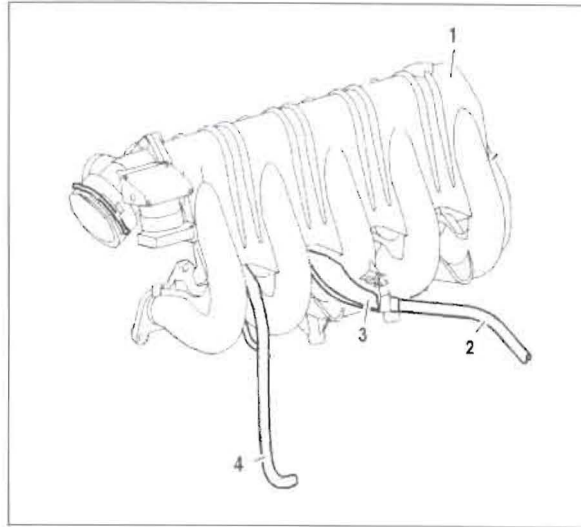

Figure 19
- Carefully pull/route the entire engine harness (2, Figure 19) with harness duct/cover (3) and fuel hose (4) through the intake manifold runners from the right side of the engine.
- **Be careful not to break cable duct/cover (3, Figure 19) when routing engine harness (2, Figure 19) and cable duct/cover (3, Figure 19) through intake manifold runners.**
- Completely remove engine harness (2) from vehicle.